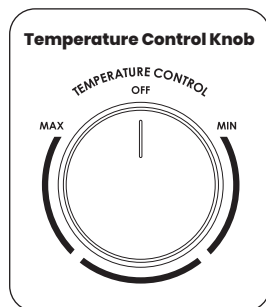

Fig. 7
2. Replace the front cover and turn the Temperature Control Knob at the front cover to “OFF” position to align with the VR Knob (Fig. 7).